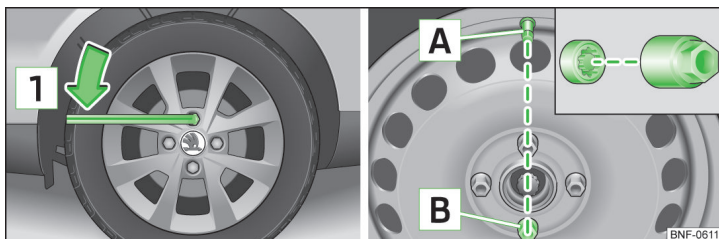

Fig. 110 Changing a wheel: Release wheel bolts / opposite position of the wheel valve and the anti-theft wheel bolts
Make sure that the anti-theft wheel bolts **B** is opposite the wheel valve **A** » Fig. 110.
- Grasp the end of the wrench and turn the bolt about **one** turn in the direction of the arrow **1** » Fig. 110.
- Grasp the end of the wrench and turn the bolt against the direction of the arrow **1** » Fig. 110, until it is tight.